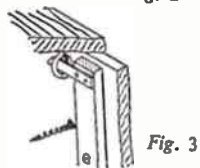

Fig. 3
An interior view of the front is given in Fig. 2 to show the locking arrangement. This is a strip of ¼in. by 1in. wood (A) fitted to the front with a single round-headed screw, situated about midway, upon which it can swing sideways. To the top of this a metal catch filed up from a piece of sheet metal and measuring 2ins. in length and ¾in. in width, is screwed. This metal piece passes through the eye of the screw eye and locks the lid, as in detail sketch, Fig. 3. Some little adjustment between the positions of strip (A) and the screw eye will be necessary to ensure the locking arrangement working satisfactorily. Make sure (A) is long enough to pass through the bottom of the box and project a trifle, say, ¼in. below.